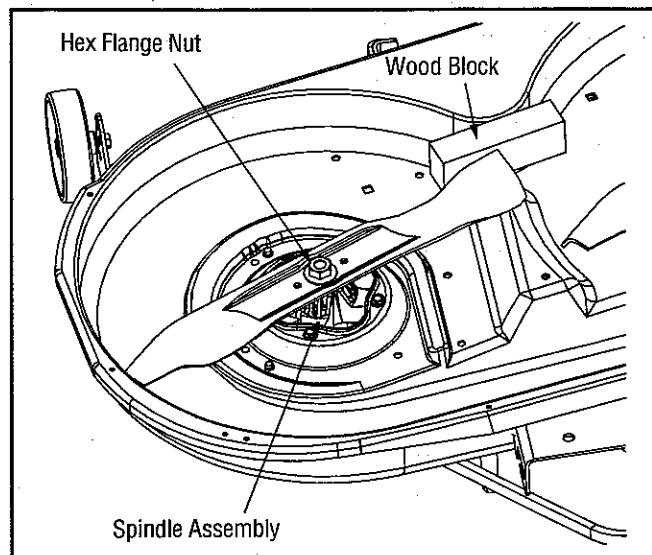

Figure 23
- Place a block of wood between the center deck housing baffle and the cutting blade to act as a stabilizer. See Figure 23.
- Remove the hex flange nut that secures the blade to the spindle assembly by turning it counter-clockwise. See Figure 23.